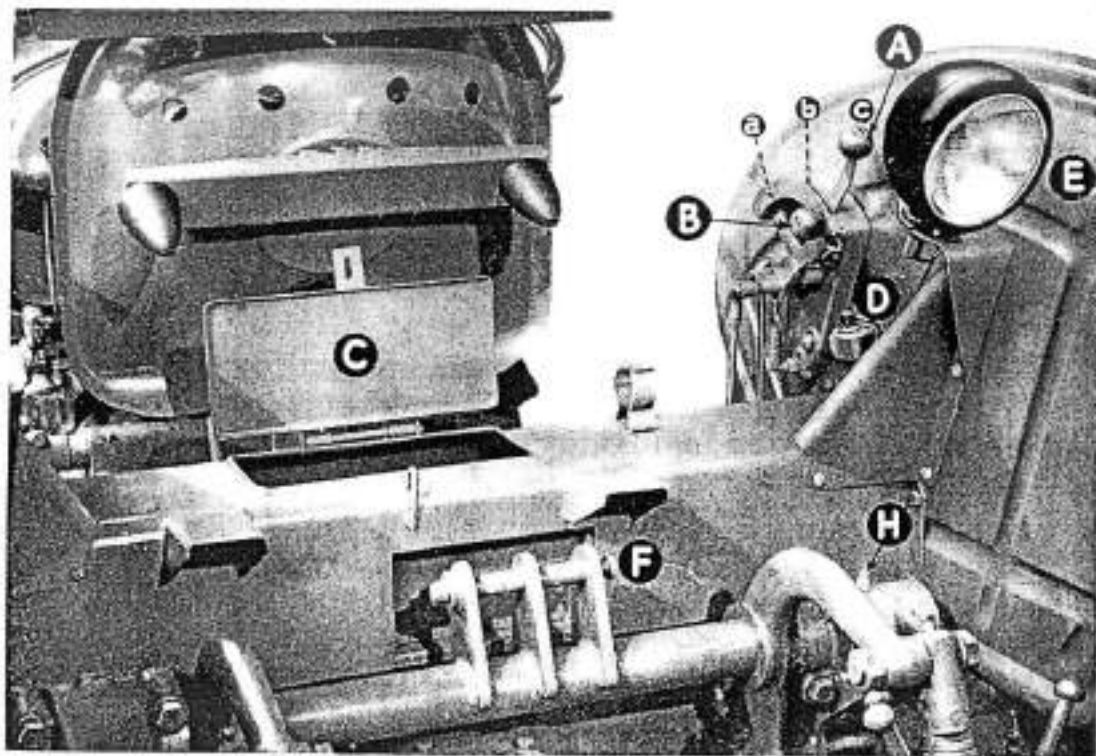

FIG. 6
CHANGE OVER SWITCH (D, Fig. 6)
POWER LIFT CONTROL (A, Fig. 6)
A three position control lever is fitted with the Mark II hydraulic system. Referring to Fig. 6 :—
Hand Lever B, Fig. 6, fitted at the hydraulic lift control.
1. Move the lever B, Fig. 6, forwards to the notch. This action also places the hydraulic lift control lever in the forward position.